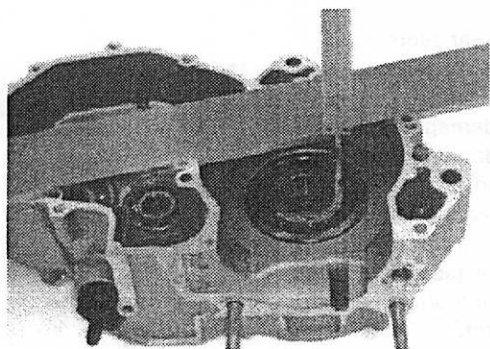

Figure 40
2. Measure the distance between the crankcase gasket surface and the outer bearing race with a depth gauge (Figure 40). Record the distance.